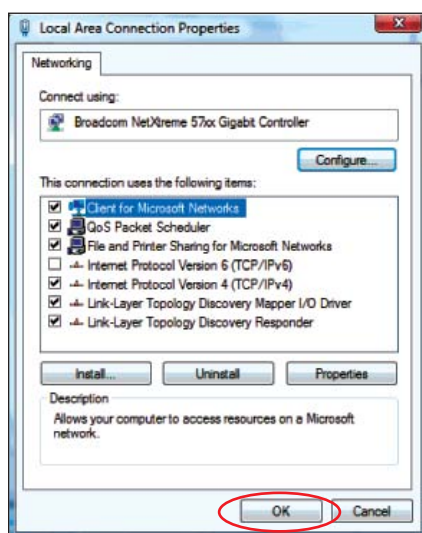

Figure 15-9. Local Area Connection Properties.
11. Select **OK** (Figure 15-9).